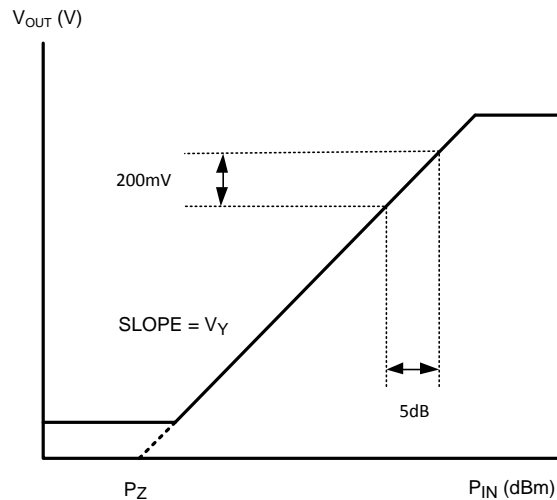

Figure 70. V_{OUT} vs. RF Input Power P_{IN}
- V_Y is the slope of the detection curve (Figure 70)
A further understanding of the equation above can be achieved via the knowledge that the output voltage V_{OUT} of the LMV225/LMV228 is linear in dB, or proportional to the input power P_{IN} in dBm. As discussed earlier, CDMA has a modulation in the order of 5 to 6 dB. Since the transfer is linear in dB, the output voltage V_{OUT} will vary linearly over about 5 to 6 dB in the curve (Figure 70).